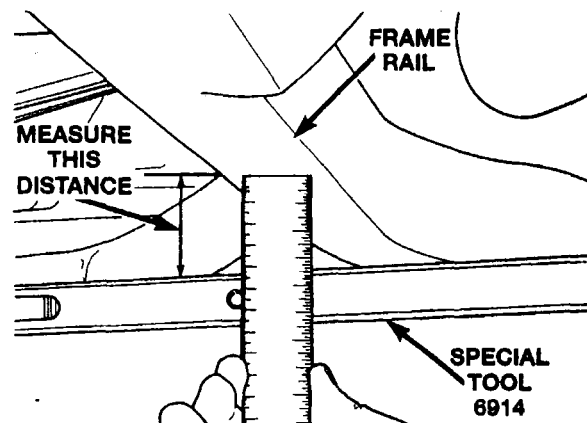

Figure 52
- c. Check the distance from the bottom of each of the **rear** frame rails to the top surface of the Vehicle Height Checking Fixture (Special Tool #6914) (Figure 52). The distance should be:
3. Check the vehicle's front design height by measuring between the Height Checking Fixture (Special Tool #6914) and the frame rail crossmember (Figure 52). The **front design height** with added weight should be: